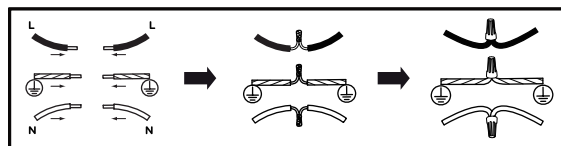

Fig. 11
- Insert the twisted ends into a wire connector and turn the wire connector until tight (Fig. 11).
- On this setting, the fan will turn clockwise. Use this function during cooler weather to re-circulate warm air (see Fig. 11).